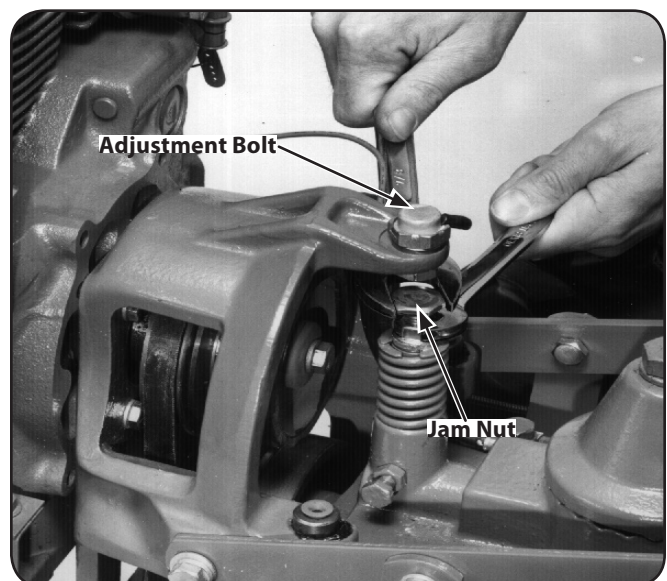

Figure 6-23
5. Place a $\frac{7}{8}$ " wrench on the head of the reverse adjustment bolt and a $\frac{5}{16}$ " wrench on the jam nut below it. See Fig 6-23. Hold the bolt steady while loosening the jam nut three or four turns.
7. Check that reverse disc is at least $\frac{3}{16}$ " away from transmission drive pulley. Then hold reverse adjustment bolt steady with one wrench while tightening the jam nut with a second wrench. See Fig. 6-23.